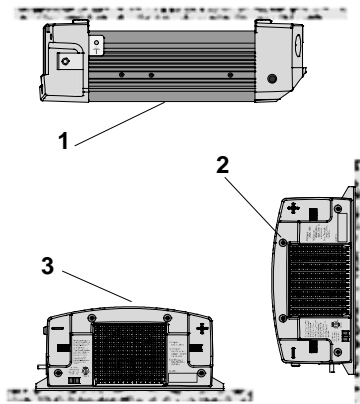

Figure 1-3 Approved Mounting Orientations
2. Select an appropriate mounting location and orientation. (See Figure 1-3 below.) To meet regulatory requirements, for use in on-land applications, the Freedom HW must be mounted in one of the following orientations: